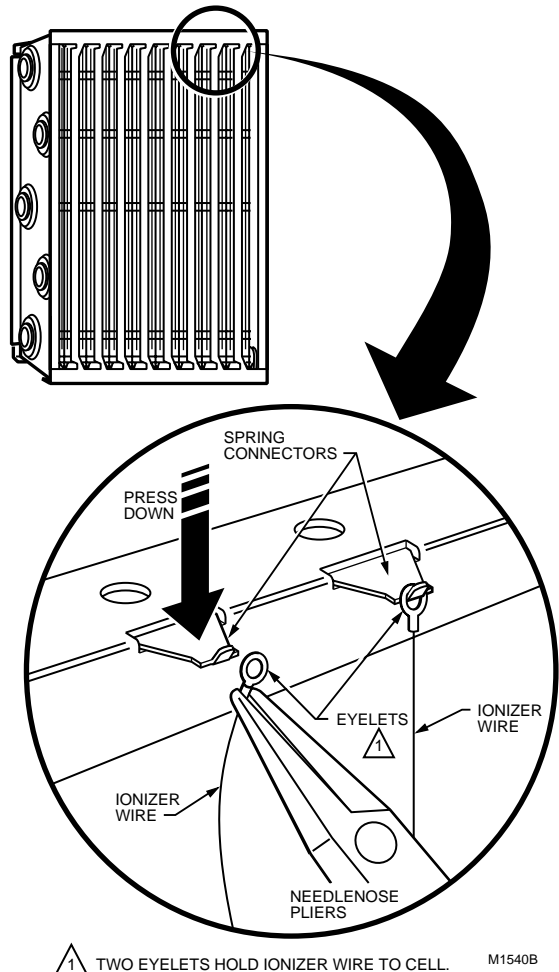

Fig. 23. Replacing an ionizer wire.
1. Hook the eyelet on one end of the wire over the spring connector on one end of the cell. See Fig. 23. Be careful to avoid damaging the spring connector or other parts of the cell.